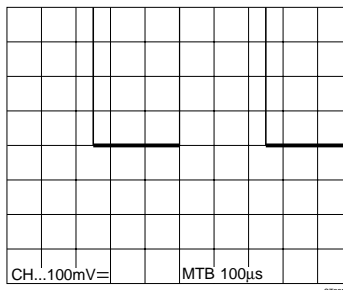
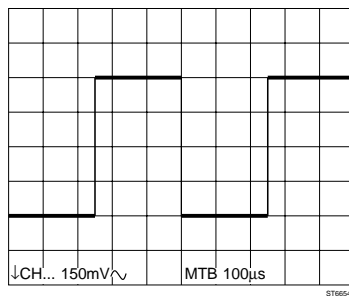

Figure 3.4
Figure 3.6
- Verify that this results in an upward signal shift. Fig. 3.4 shows this for channels with 100mV input sensitivity: the shift is 3 divisions. Fig. 3.6 shows this for channels with 1.00 V input sensitivity: the shift is 0.3 divisions.
- Press the INV key and check for a display as shown in Fig. 3.6.